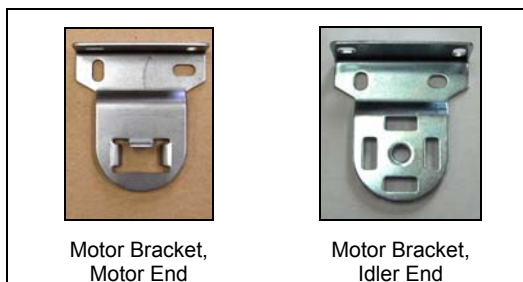

Figure 1 Custom Roll Shade with Chain and Clutch Lifting System, Showing Straps
**Important:** When you remove the shade from its packaging, leave it rolled up, as in Figure 1. Do not remove the straps until the shade is installed in the brackets.